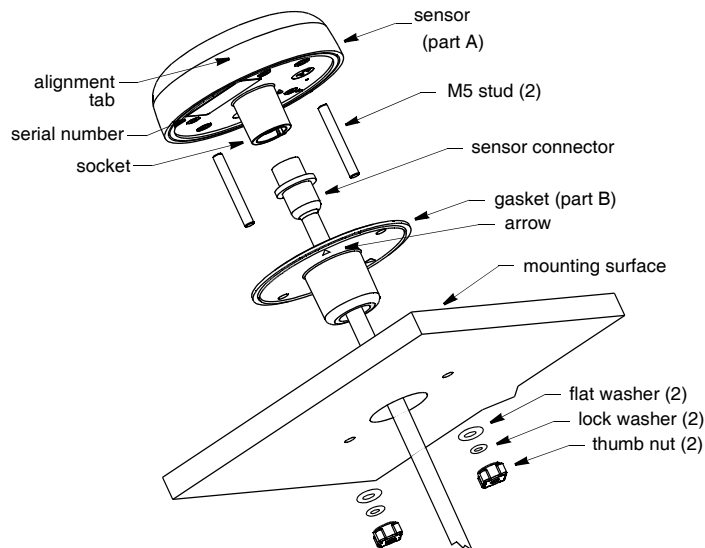

Figure 4. Flush mount
1. Remove the label from over the sensor's socket (part A) (Figure 4).